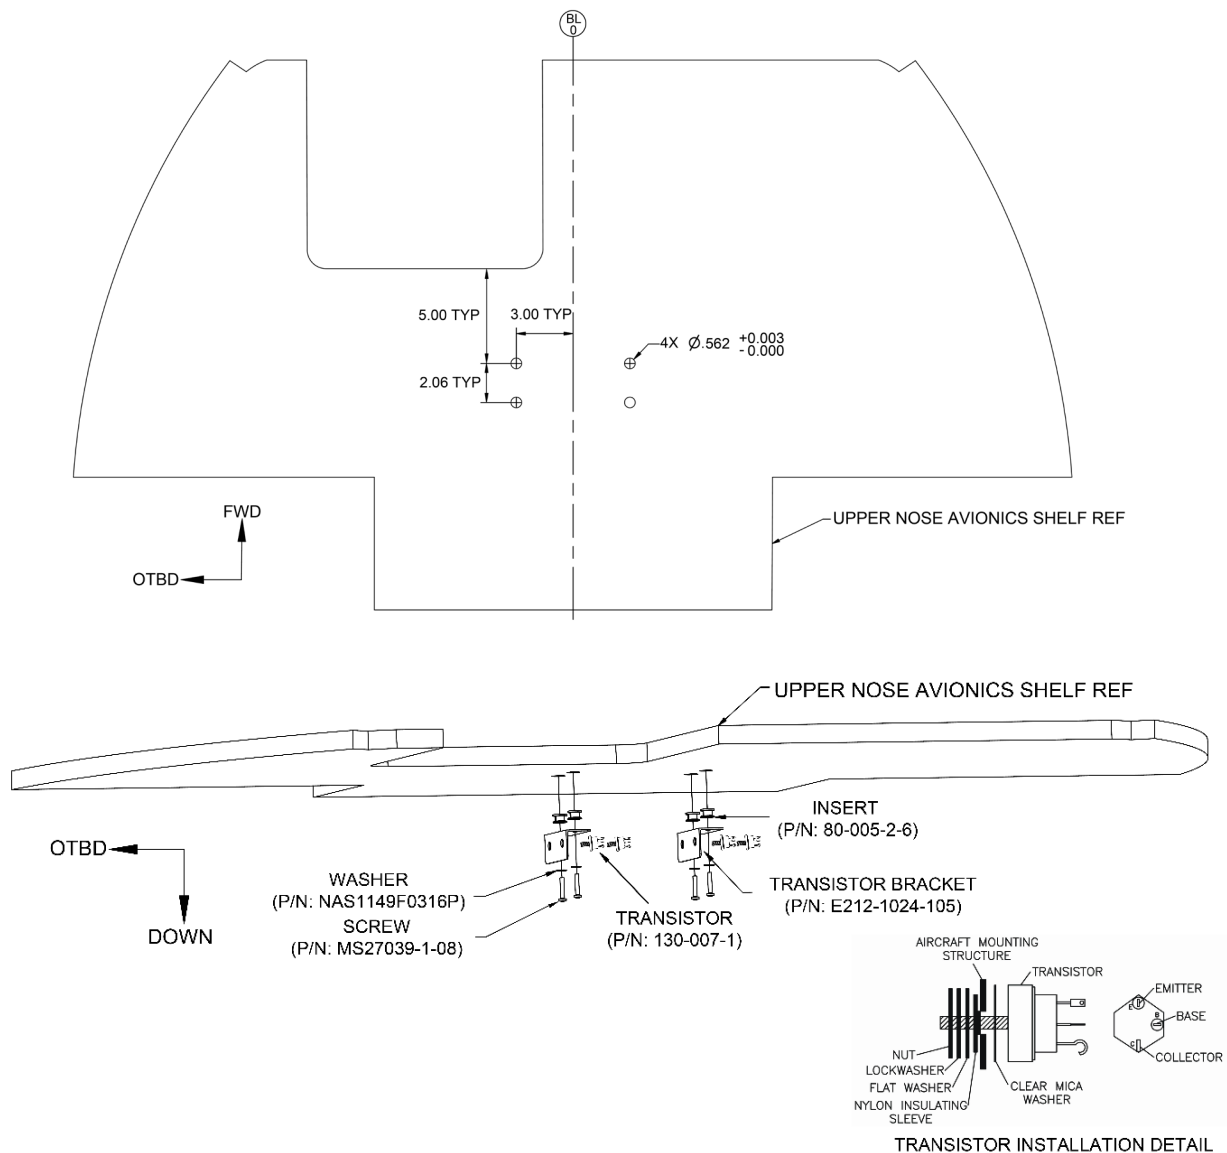

Figure 1 – Transistor Bracket Installation
3. Locate the Upper Shelf and install Inserts and Transistor Brackets in accordance with BHT-ALL-SRM-3-2-12 Application A and Figure 1.
4. Install transistors, Q10, Q11, Q12 and Q13 as shown on Figure 1.